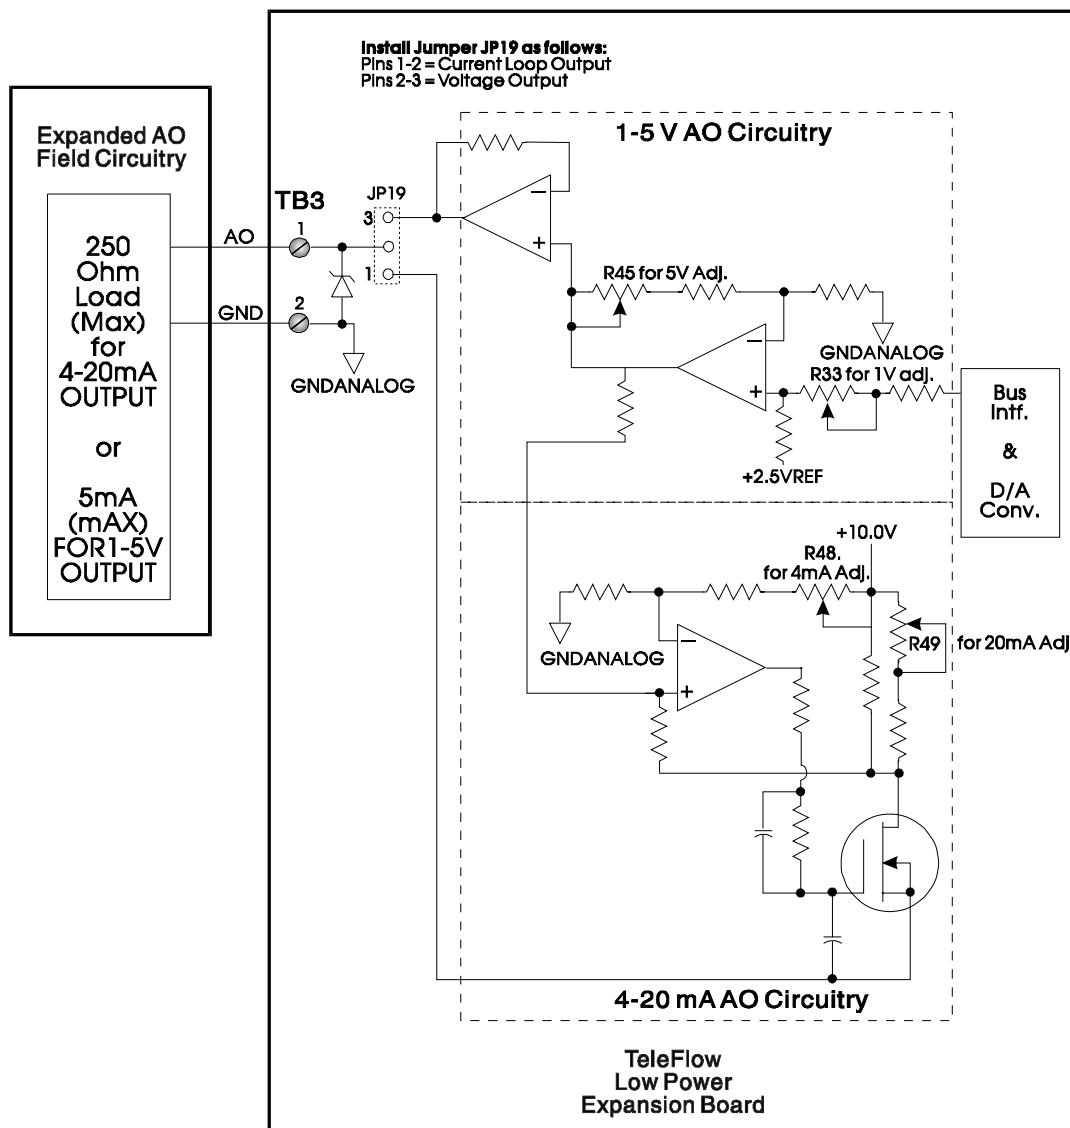

Figure 9 - LPI/OEB Analog Output Configuration
2.2.4 LPI/OEB Analog Output Wiring (TB3) (see Figure 9 and Table 1)